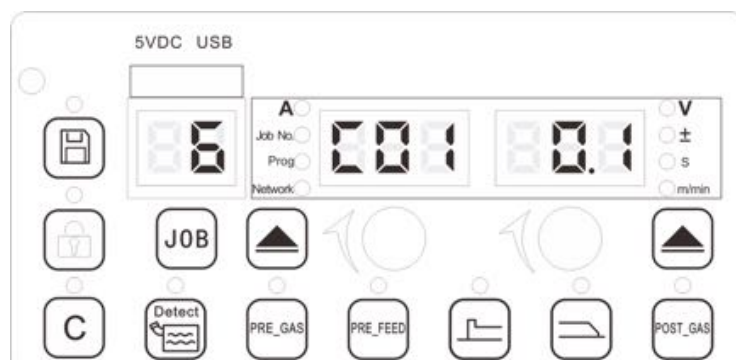

Figure 3-23 Setting view of withdrawing parameters
1. Press the JOB key and switch the left knob to JOB No.6, then press the “JOB” button again to confirm the choice, as shown in Figure 3-23.
1. Press the JOB key and switch the left knob to JOB No.9, then press the “JOB” button again to confirm the choice, as shown in Figure 3-23.